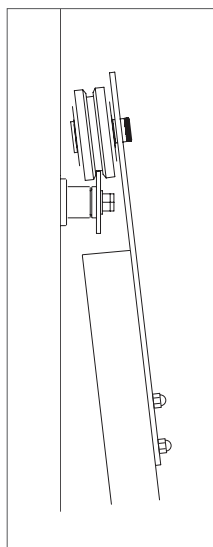

Figure 6
11. Hang the door. (Figure 6).